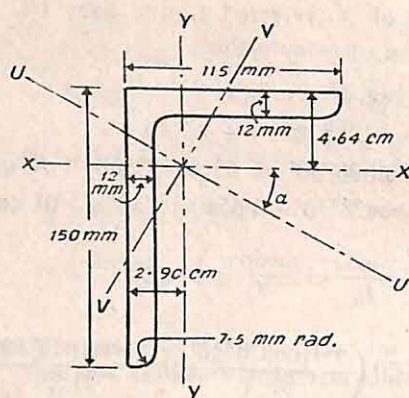

Fig. 61
8. A beam of angle section  $150 \text{ mm} \times 115 \text{ mm} \times 12 \text{ mm}$ , shown in Fig. 61, is freely supported on a span of 2 m with the 150 mm leg vertically downwards. A vertical load of 1,200 kg is applied on the 115 mm leg at the centre of the span. Find the maximum tensile and compressive stresses in the beam.